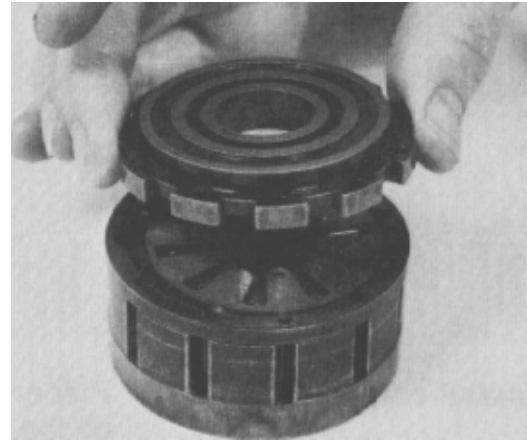

Figure 97
17. Put the commutator cover on top of the commutator ring with the flat surface towards the commutator (Fig. 97). Align the screw holes in the cover, with the screw holes in the drive plate.